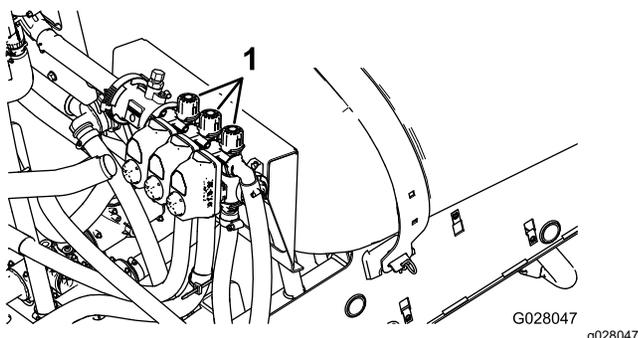

Figure 22
- Adjust the right section-bypass knob (Figure 22) until the pressure reading is at the previously adjusted level (typically 2.75 bar or 40 psi).
- Adjust the center section-bypass knob (Figure 22) until the pressure reading is at the previously adjusted level (typically 2.75 bar or 40 psi).
- Turn off the left section and adjust the section-bypass knob (Figure 22) until the pressure reading is at the previously adjusted level (typically 2.75 bar or 40 psi).